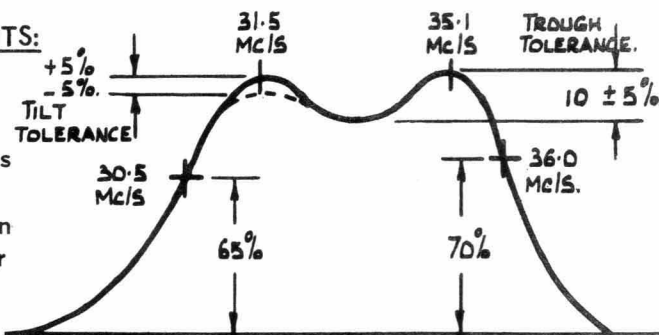

FIG. 7.
8. Adjust the converter transformer L7 to peak at 31.5 Mc/s and the conductance L8 to peak at 35.1 Mc/s to produce a curve similar to that shown in Fig. 7.
7. Adjust the sweep generator to display the overall IF response curve and set the signal generator to note the response at the desired frequencies as seen in fig. 7.